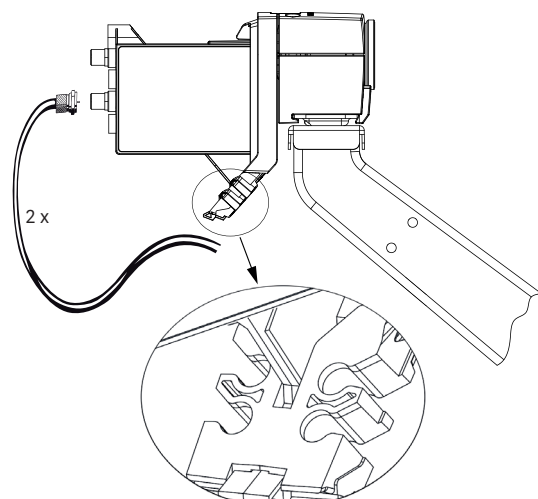

Fig. 5: Cable connection
5. Lead the connected cable forwards and insert sideways into the cable fastening (see close-up in Fig. 5 below).
6. Slide on the cover until it fits into the groove and locks in the bottom section. Tighten Allen screw (S).